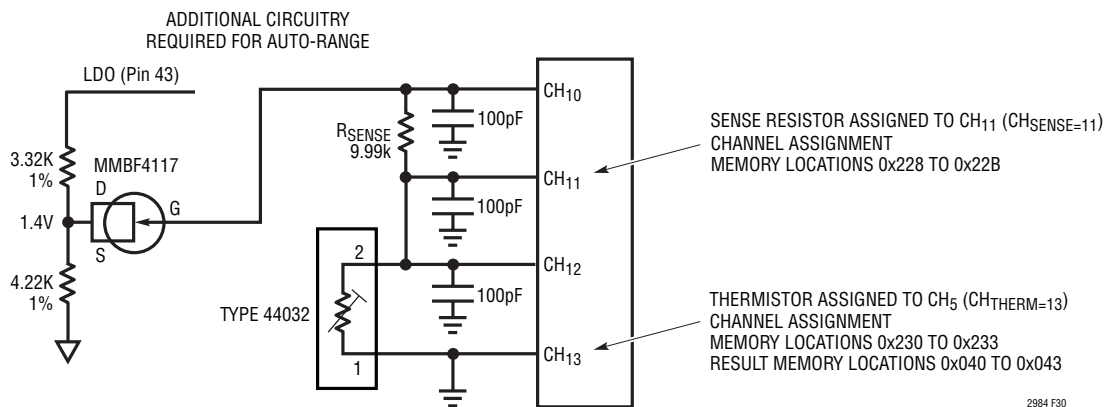

Figure 30. Differential Thermistor Example
*Additional Circuitry required for auto-range, see Figure 30 on page 55.
Figure 30 shows a typical temperature measurement system using a differential thermistor. In this example a 30k Ω (44032 type) thermistor is tied to a 9.99k Ω sense resistor. The thermistor is assigned channel CH13 (memory locations 0x230 to 0x233) and the sense resistor to CH11 (memory locations 0x228 to 0x22B). Channel assignment data is shown in Tables 62 and 63).
Note 1: Additional Circuitry required for thermistors using auto-range. See Figure 30.